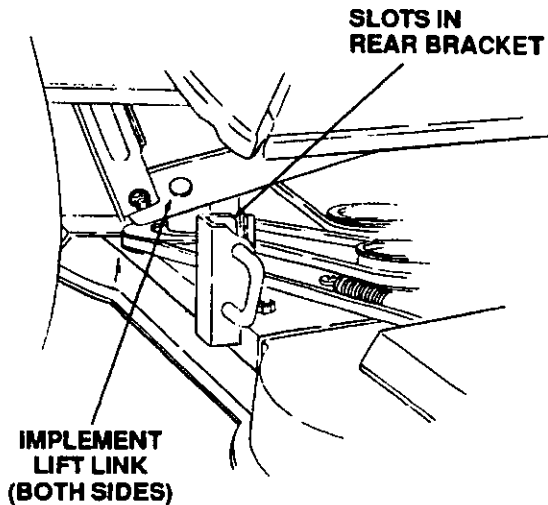

Figure 11
5. Raise tractor implement lift handle to its highest setting. Slide the deck under the tractor until both rear bracket slots of deck align with both implement lift links of the tractor. (Refer to Figure 11.)